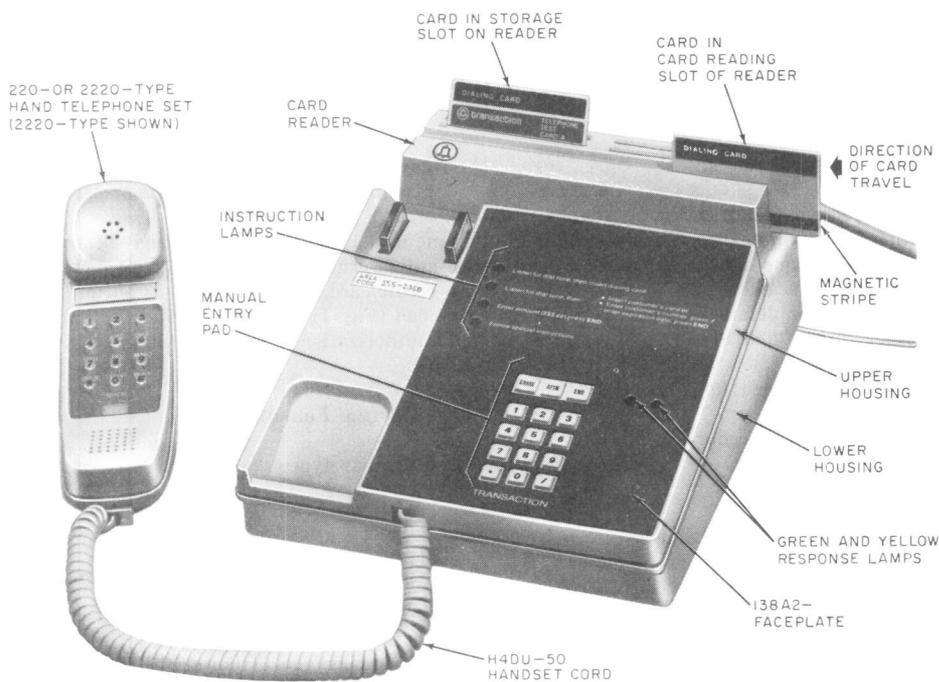

Fig. 1—5000AM Transaction I Telephone Set Base Equipped With 220- or 2220-Type Hand Telephone Set
**2.01** The 5000AM Transaction I telephone set base, equipped with a 220- or 2220-type hand telephone set (Fig. 1) provides the standard features of a single line rotary or TOUCH-TONE telephone set.
It can also automatically dial and electronically transmit information, read from a magnetic stripe on a credit card, or keyed on a 15-button manual entry pad (Fig. 1) to a data center for immediate credit authorization, check verification, or inventory control.